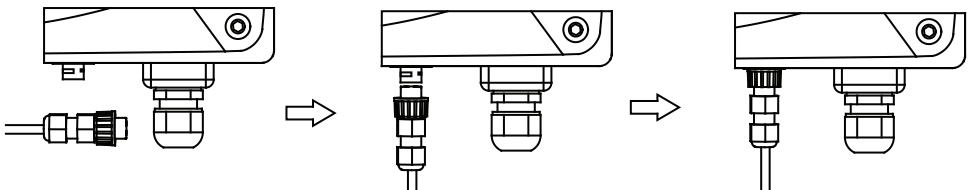

Figure 37 Detailed connectiona
(1) Connect the communication connector configured for the inverter to the RS485 terminal of the inverter, as shown in Fig 37;